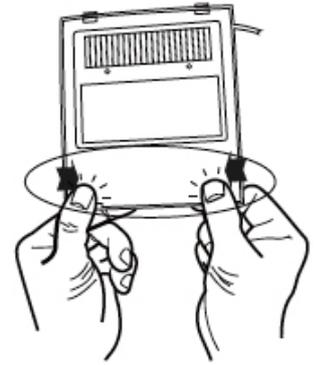

Fig.9
- d. Push the two corners on front lens retaining frame until it snaps into place (Fig. 9).